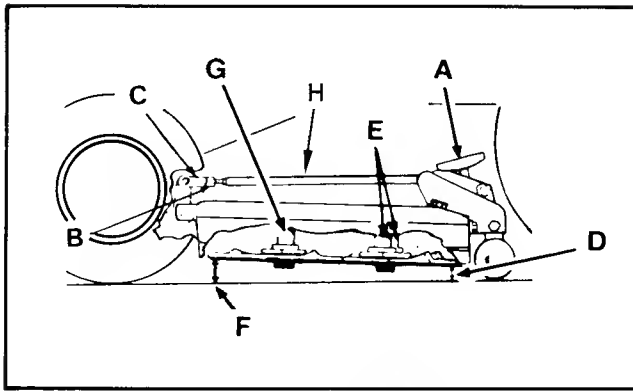

FIGURE 38 - Level Mower
2. Turn both mower height adjustment handles (A, Figure 38) fully clockwise to the highest cutting height position.
3. Rotate the mower blades so the tips point straight forward and backward as shown in Figure 38.
4. Measure and note the distance (F) from the front tip of the center blade to the ground.
5. Measure the distance (D) from the rear tips of the two side blades to the ground. This distance should be the same for the R.H. and L.H. side blades and should be 1/8" to 1/4" (3 to 6 mm) less than the front distance (F) measured in step 4.
- a. Loosen the jam nuts (B, Figure 38).
- b. If the rear distance (D) dimensions measured are different for the R.H. and L.H. side blades remove the cotter pin and disconnect the eye-
bolt or yoke from the mower hitch for only one bail assembly arm (H, Figure 38). Adjust this eyebolt or yoke in or out on the bail assembly arm until distance (D) is the same on the R.H. and L.H. side when this eyebolt or yoke is again connected to the mower hitch, and blocks added to step 6 are removed.
- c. Recheck the (F) distance. If the (D) distance is not in the range of 1/8" to 1/4" (3 to 6 mm) less than the (F) distance remove the cotter pin and disconnect the eyebolt or yoke from the other bail assembly arm. Then turn both eyebolts or yokes to change the length of both bail arm assemblies equally. Shorten the bail assembly arms to decrease the front height of the mower. Lengthen to raise the front height. Be sure to give both eyebolts or yokes and equal number of turns for front to back leveling.
- e. Reinstall the eyebolts or yokes on the hitch and reinstall the cotter pins. Spread the cotter pins around the hitch pins. Then retighten the jam nuts. (B).